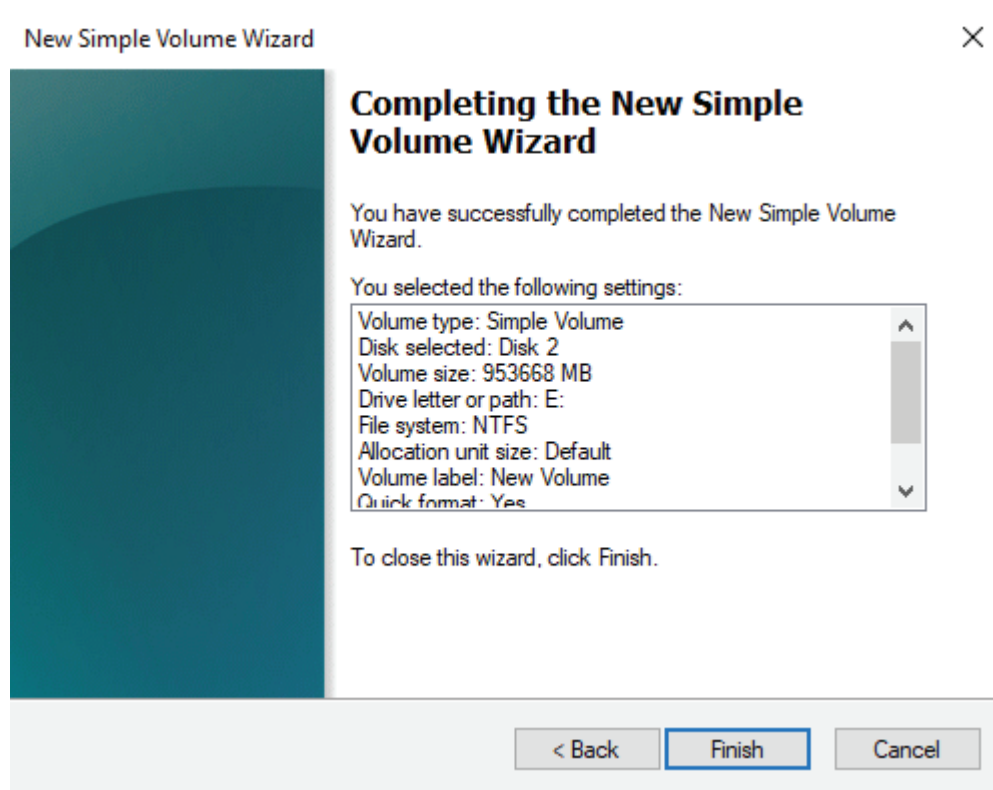

Figure 11
11. After you have selected the format of your choosing then click next. You will then be brought to the end of the installation. Here you have a display summary before you make permanent changes. Click **finished** when done (figure 11).